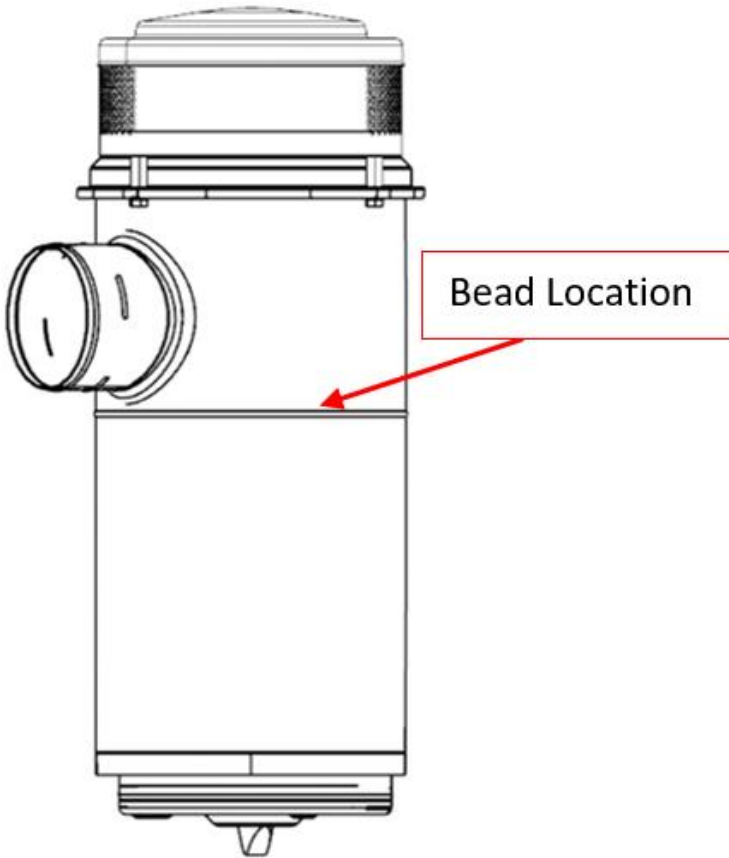

Figure 2
3. In the case the top band assembly is being replaced note the location of the formed bead on the air cleaner body, Figure 2.